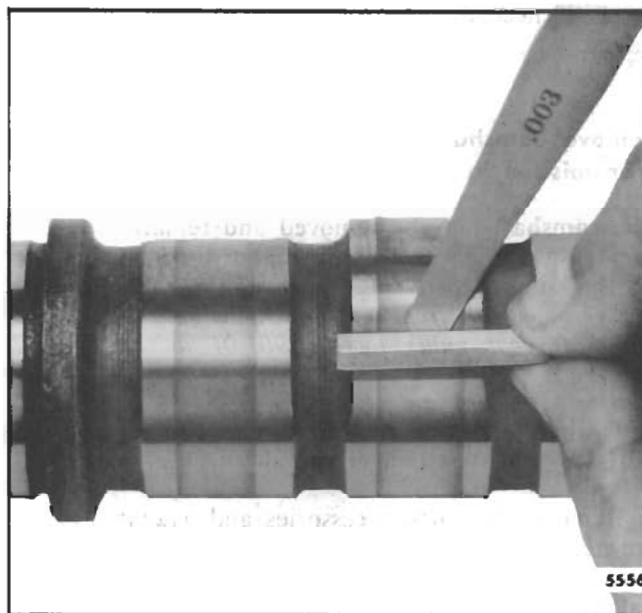

Fig. 8 - Checking Cam Lobe Wear
1. With a tapered leaf set of feeler gauges (.0015 " - .010 ") and a piece of square hard material ( $1/8$  " x  $3/8$  " x 1 "), measure the flat on the injector rise side of the cam lobes (Fig. 8).